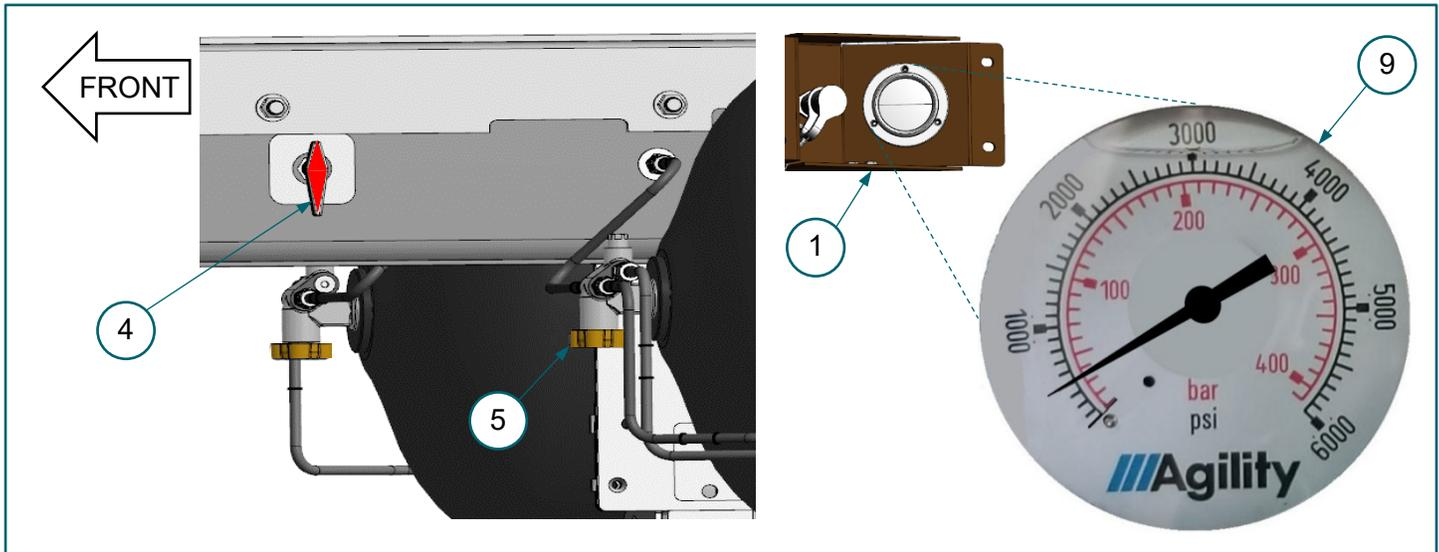

FIGURE 4-1. fuel fill panel, (9) HP gauge reading 500 psi, (4) 1/4-turn manual shutoff valve, (5) DS cylinder manual valve
1. With an assistant, open DS cylinder manual valve while observing HP gauge on fuel fill panel until it reads 500 psi (3.45 MPa) and close the manual cylinder valve. **FIGURE 4-1**
2. Open 1/4-turn manual shutoff valve. **FIGURE 4-1**